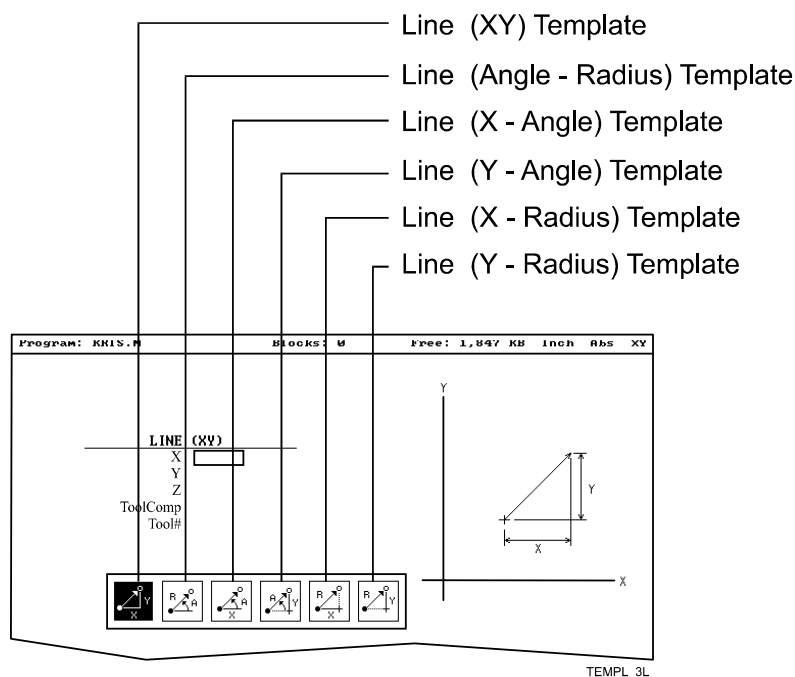

Figure 4-11, Rapid/Line Template Pop-up Menu
2. Press **More. . . (F4)** to display the Template pop-up menu. Refer to **Figure 4-11**.